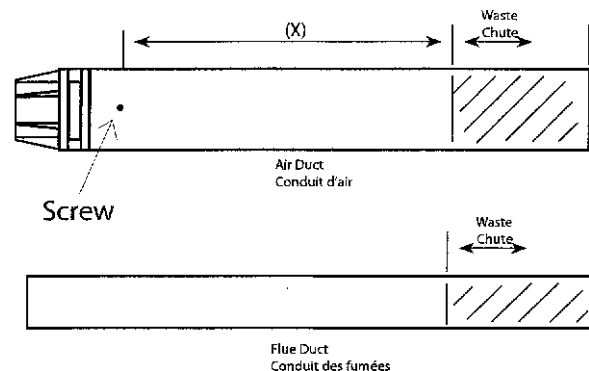

Fig. 3
3. Taking the air duct, mark dimension 'X' as shown (Fig. 3). Measure the length of waste material, and transfer the dimension to the flue duct (Fig. 3).